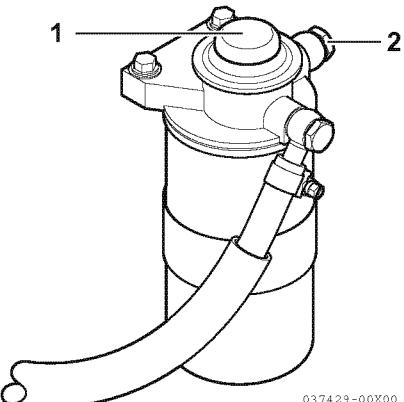

Figure 3
3. Loosen the air bleed screw (2, Figure 3).
4. Push up and down on the priming pump (1, Figure 3) to release air out of the air bleed screw.